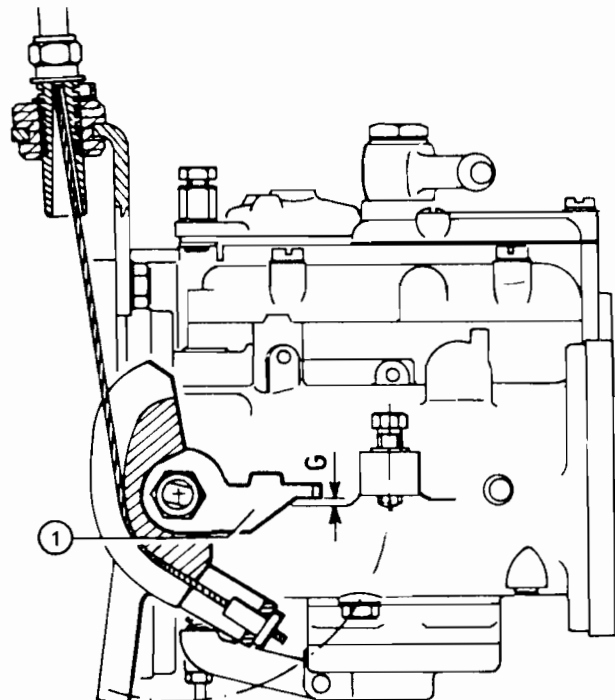

Fig. 13.8 Accelerator linkage adjustment diagram (Sec 5)
26 Refer to Fig. 13.8 and check that the clearance (G) is between 1.0 and 2.0 mm (0.04 and 0.08 in).